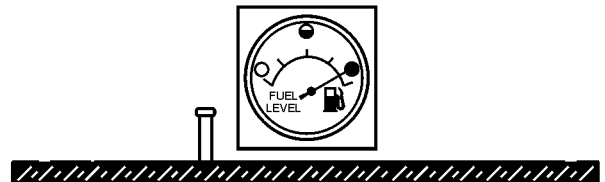

Figure 32. Full Fuel Tank
5. **NEVER overfill fuel tank** — It is important to read the fuel gauge when filling trailer fuel tank. **DO NOT** wait for fuel to rise in filler neck (Figure 32).